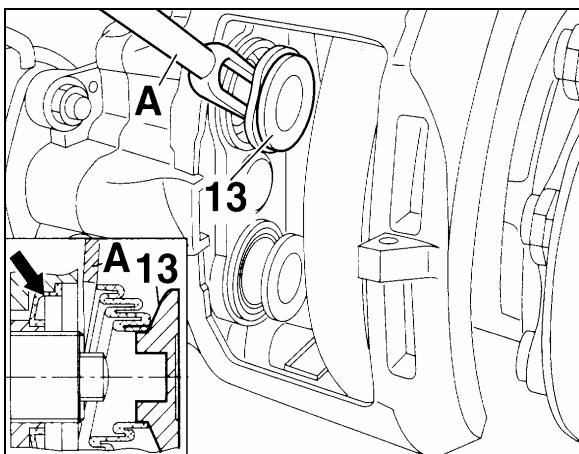

FIGURE 33: RUBBER BOOTS
- a) The rubber boots (13, Fig. 33) should show no damage, check the attachment.